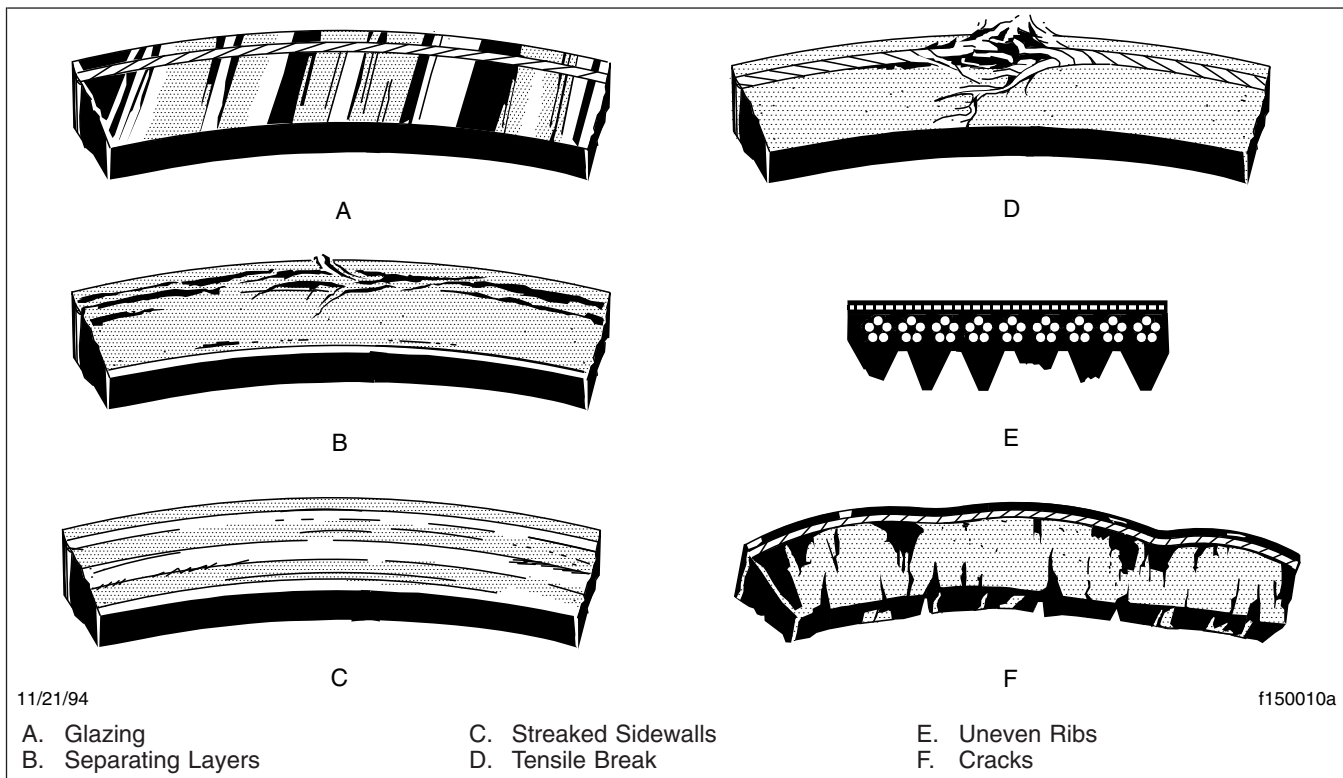

Fig. 2, Drive Belt Replacement Conditions
1. Inspect the belt for glazing. See Fig. 2, Ref. A. Glazing is represented by shiny sidewalls, and is caused by friction created when a loose belt slips in the pulleys. It can also be caused by oil or grease on the pulleys.
2. Check the belt for ply separation. See Fig. 2, Ref. B. Oil, grease, or belt dressing can cause the belt to fall apart in layers. Repair any oil or coolant leaks that are affecting the belts before replacing the drive belts. Do not use belt dressing on any belt.
3. Check the belt for a jagged or streaked sidewall. See Fig. 2, Ref. C. Jagged or streaked sidewalls are the result of foreign objects, such as sand or gravel in the pulley, or a rough pulley surface.
4. Check for tensile breaks; breaks in the cord body. See Fig. 2, Ref. D. Cuts in a belt are usually caused by foreign objects in the pulley, or by prying or forcing the belt during removal or installation.
5. Check for uneven ribs on serpentine (poly-V) belts. See Fig. 2, Ref. E. Foreign objects in the pulley will erode the undercord ribs, causing the belt to lose its gripping power.
6. Check the drive belts for cracks. See Fig. 2, Ref. F. Small irregular cracks are usually signs of an old belt.